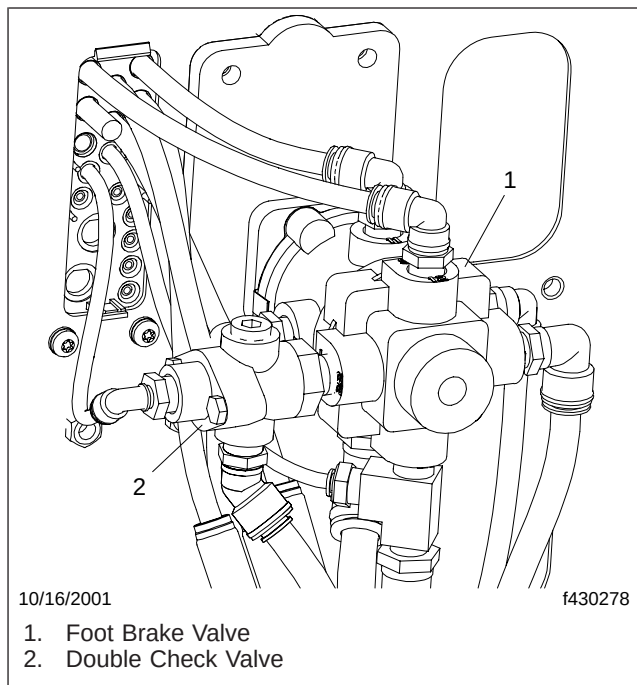

Fig. 1, Brake Valve and Double Check Valve Plumbing
2. Mark the positions of the air lines on the valve, then disconnect them from the double check valve. See Fig. 1.